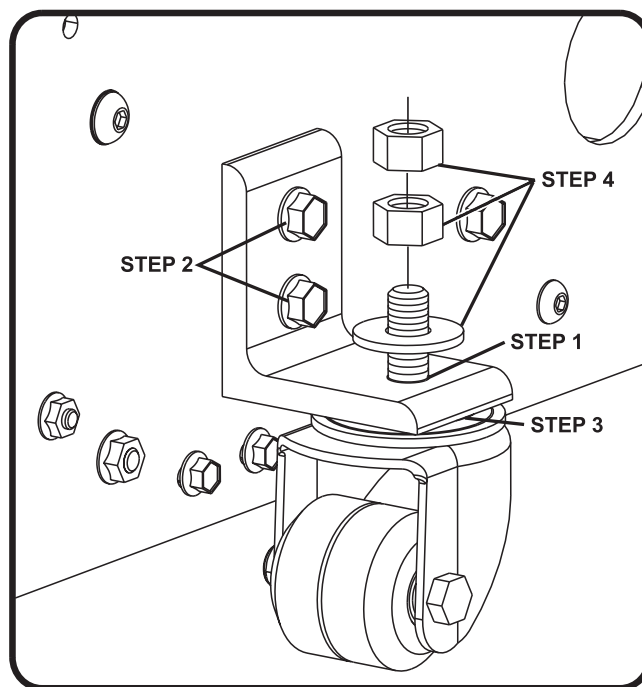

Figure 1
1. Enlarge hole with 1/2" drill. Refer to *Figure 1*.
2. The 5/16" bolts attaching the angle bracket may have loosened, allowing the holes to wear and the bracket to twist. If so, remove the 5/16" hardware, square the bracket to the side frame and enlarge the holes with a 3/8" drill. Refer to *Figure 1*. Reattach the angle bracket using the included 3/8" flanged bolts & nuts.
3. The new caster bracket is 1/4" (6 mm) taller than the original. Do not use flat washers as spacers. Mount the new caster bracket directly against the bottom of the angle bracket for best support. Refer to *Figure 1*.
4. Place flat washer and both nuts on top of the angle bracket. Refer to *Figure 1*. Tighten the first nut against the washer and then tighten the second nut to lock.